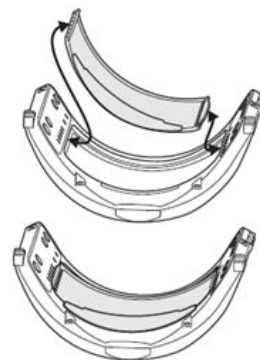

Fig. 12
- c. To replace the battery, on the side of the welding filter, locate the small cutout. Pry the battery holder out with a fingernail or small screw driver. Replace with a new CR2450N disc style battery and reinsert the battery holder (Fig. 12). All of the indicator lights on the welding filter should illuminate to give a visual confirmation of power.